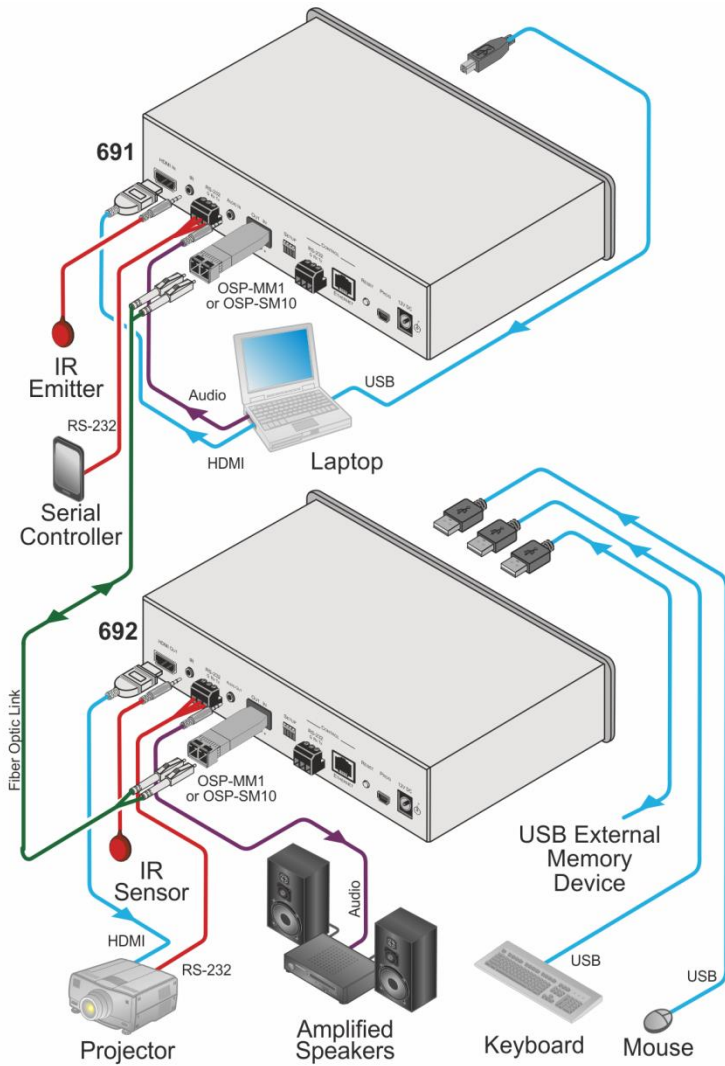

Figure 4: Connecting the 692 HDBT 2.0 Optical Receiver
You can use the **692** HDBT 2.0 Optical Receiver and a compatible receiver, for example, the Kramer **691** HDBT 2.0 Optical Transmitter to configure a paired HDMI transmitter/receiver system, as shown in the example in Figure 4.
8. Connect the supplied power adapter to the power socket and plug the adapter into the mains electricity (not shown in Figure 4).
17. Connect the supplied power adapter to the power socket and plug the adapter into the mains electricity (not shown in Figure 4).